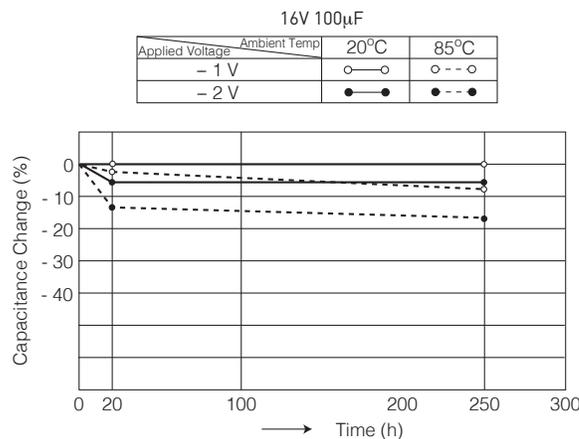

Fig. 2-3 Capacitance vs. Reverse Voltage Characteristics
- 2) In case of a low reverse voltage and a low leakage current, a capacitor will initially generate heat due the power loss. But the progressing formation of an oxide layer on the cathode electrode causes a decrease in current. Fig. 2-3 shows how the capacitance changes relative to the application of reverse voltage. The results shown in the figure is due to the decrease in cathode foil capacitance caused by oxide layer formation on the surface of the cathode aluminum foil. Again due to the consumption of electrolyte, the $\tan \delta$ increases.